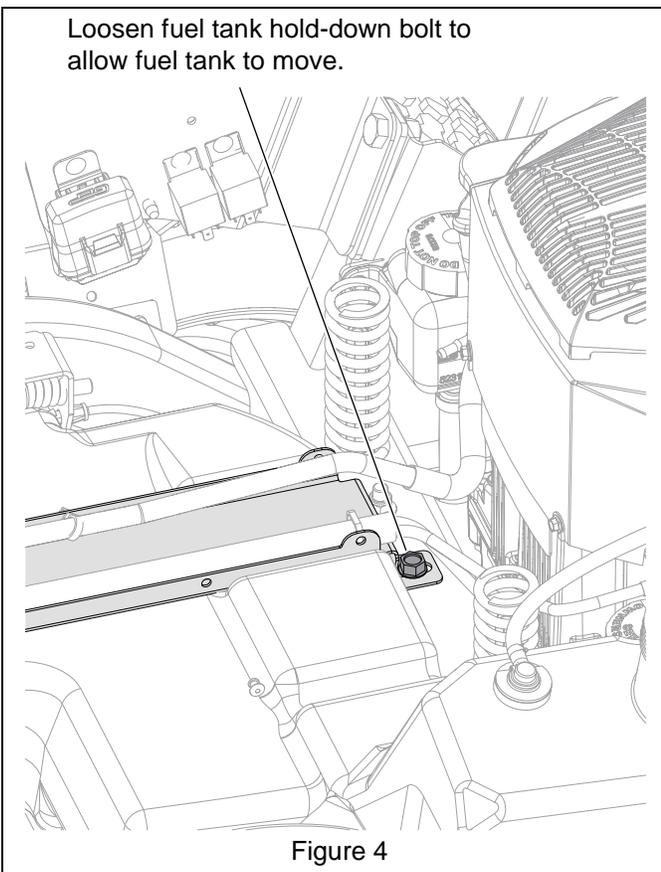

Figure 4
4. Loosen the rear fuel tank strap mounting bolt to allow some fuel tank movement. See Figure 4.